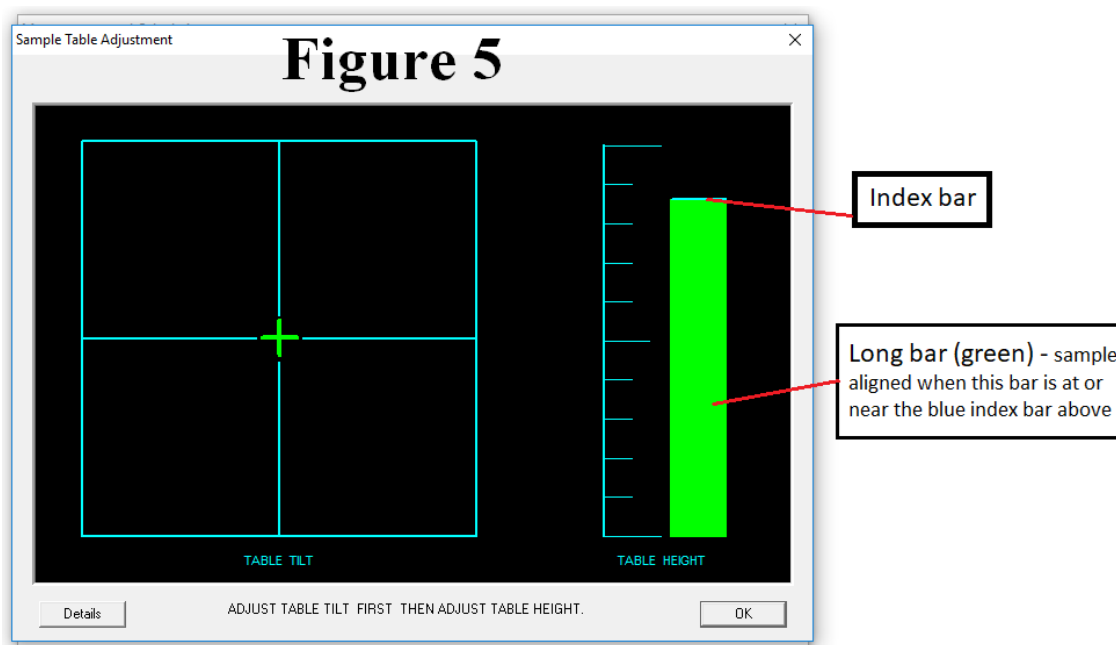

Figure 5
- 8.3 **Adjust the tilt first:** work the sample table-tilt knobs until the target cross is centered on the screen (see Fig 5).